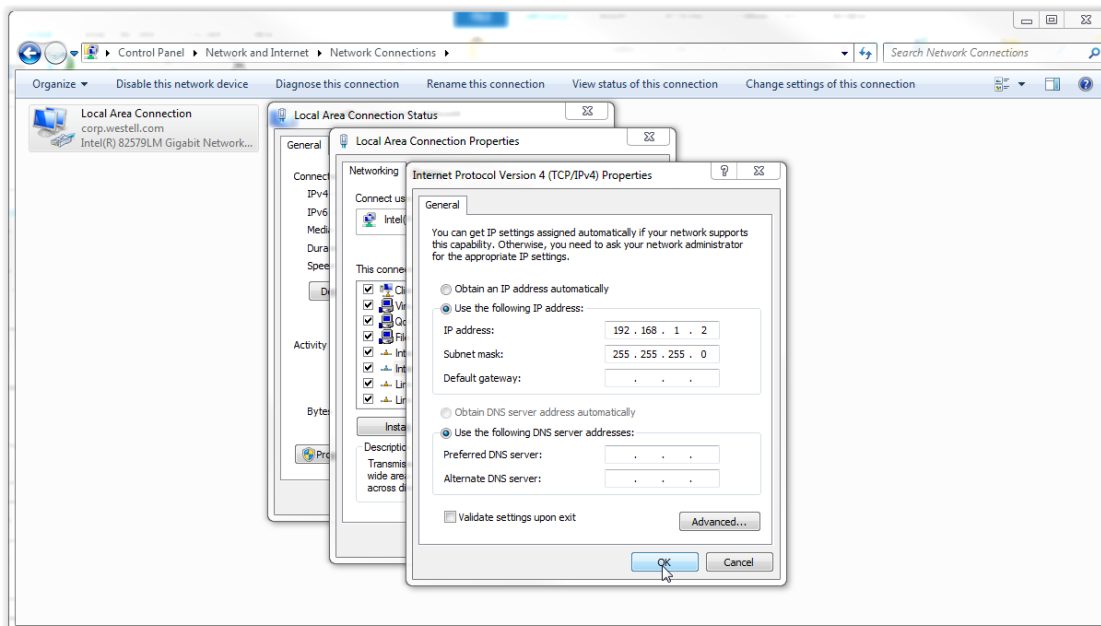

Figure 6-1: IP Settings
1. Select **Use the following IP Address** and enter the IP address **192.168.1.x**, where 'x' is any number from 2 to 254, inclusive, other than 150, Figure 6-1.